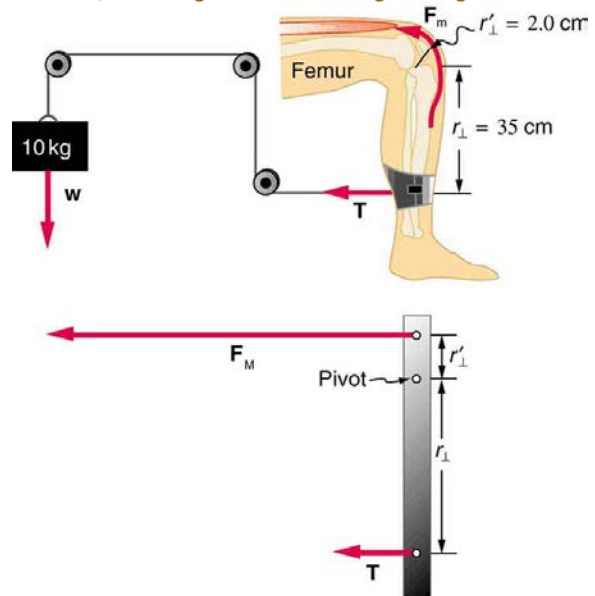

Figure 9.40 A mass is connected by pulleys and wires to the ankle in this exercise device.
29. A device for exercising the upper leg muscle is shown in **Figure 9.40**, together with a schematic representation of an equivalent lever system. Calculate the force exerted by the upper leg muscle to lift the mass at a constant speed. Explicitly show how you follow the steps in the Problem-Solving Strategy for static equilibrium in **Applications of Statistics, Including Problem-Solving Strategies**.